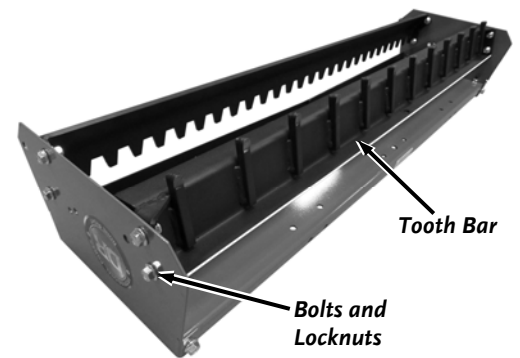

Figure 9
5. Turn the Tooth Bar around so the teeth are facing forward (**Figure 9**). Secure the Tooth bar with the four Bolts, eight Flat Washers and Locknuts but only hand tight for now.